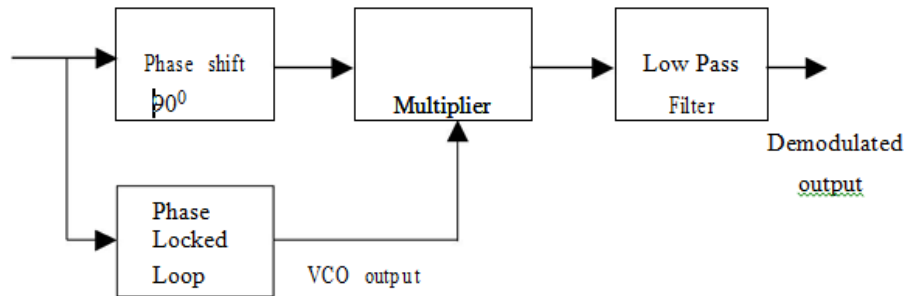

Figure 15 AM demodulation
- A PLL may be used to demodulate AM signals as shown in the figure 15. The PLL is locked to the carrier frequency of the incoming AM signal.